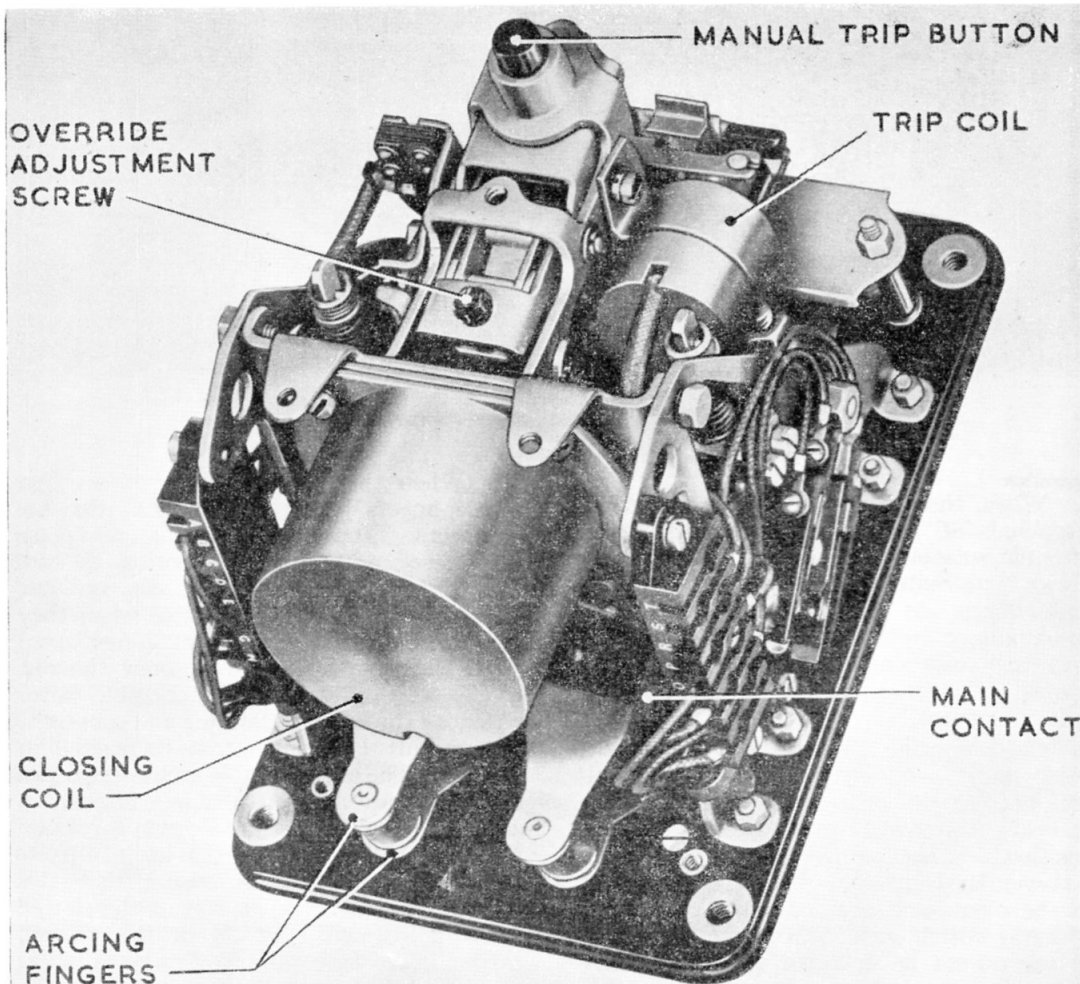

Fig. 3. View with cover and arc chute removed
10. When the main contacts open, their arcing fingers break contact just after the main contacts open so that arcing takes place only between these fingers within the arc chutes, thereby protecting the main contacts. The fingers are easily renewable when they become unserviceable. To fit a new fixed arcing finger, unlock and unscrew the nut which secures its stud (accessible after removing the moulded housing and connector bar) and lift the terminal from its position in the base. The unserviceable arcing finger can now be removed and a new one fitted. An adjustable link is fitted in order to obtain the contact "override" of $.040 \text{ in.} \pm .010 \text{ in.}$ and it is important to ensure that this override is maintained by setting the slotted screw adjustment (*fig. 3*) in the contact carrier link of the toggle. To fit a new moving arcing finger, remove the two hexagon bolts which secure it to the top of the main